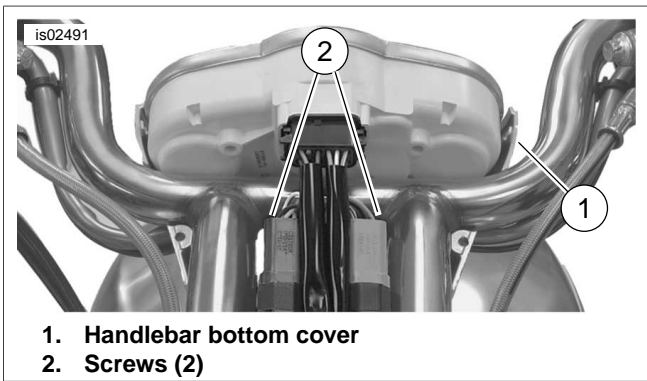

Figure 2. Remove Handlebar Bottom Cover
- c. See Figure 2. Remove two screws securing the handlebar bottom cover (2) to the handlebars and gently separate bottom cover from cluster. Proceed to Step 5.